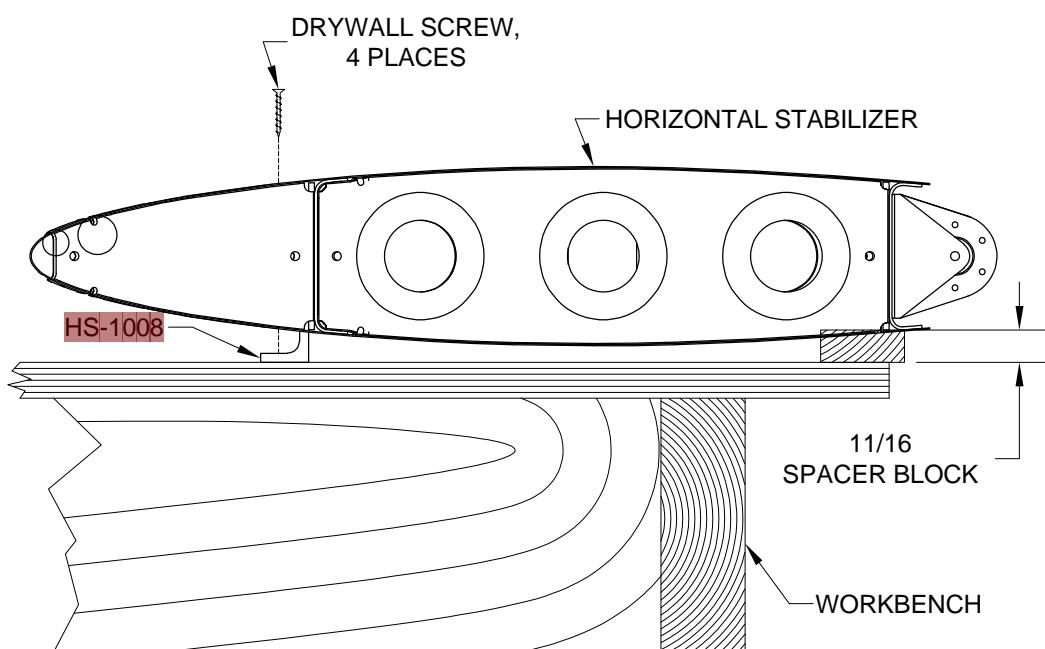

FIGURE 2: HORIZONTAL STABILIZER SETUP
Step 2: Attach the horizontal stabilizer to the workbench using four "drywall" type screws as shown in Figure 2. Position the stabilizer on the workbench such that the tips hang over the edges of the workbench. The overhang is necessary so that the elevator counterbalance arms will clear. See Figure 4. The screws are installed through the holes in the **HS-1008** Horizontal Stabilizer Front Spar Attachment Brackets into the surface of the workbench. Rest the rear spar of the horizontal stabilizer on a spacer block as shown in Figure 2 to hold the horizontal stabilizer in its correct orientation.